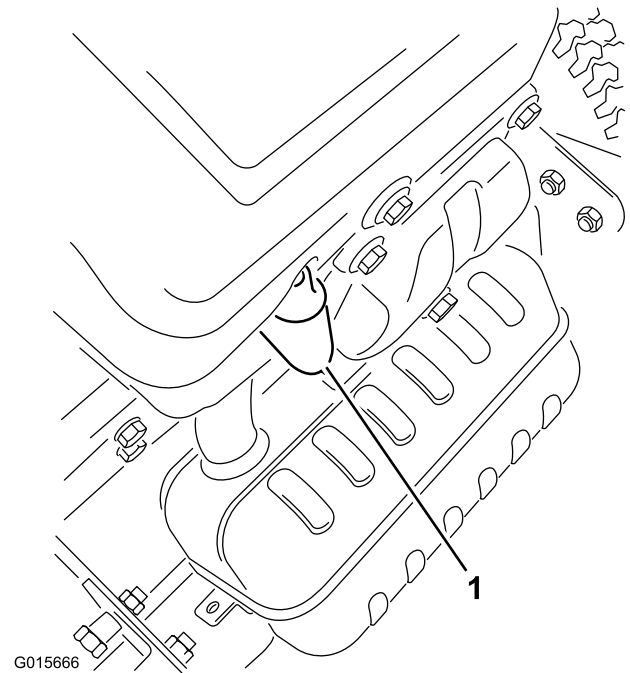

Figure 22
4. Disconnect the wire from the spark plug (Figure 22).